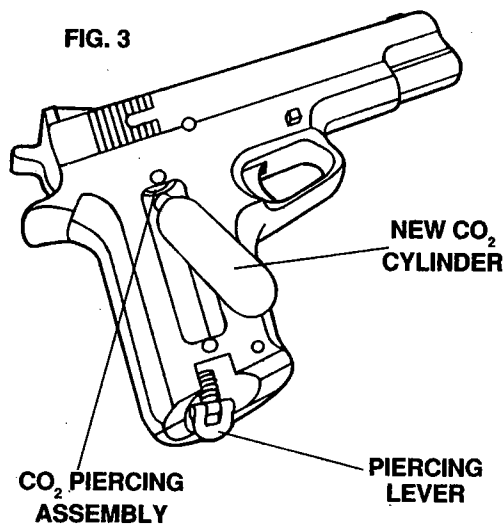

FIG. 3
- Insert the new CO₂ cylinder into the pistol with the small neck of the cylinder pointing toward the piercing assembly. (Fig. 3)